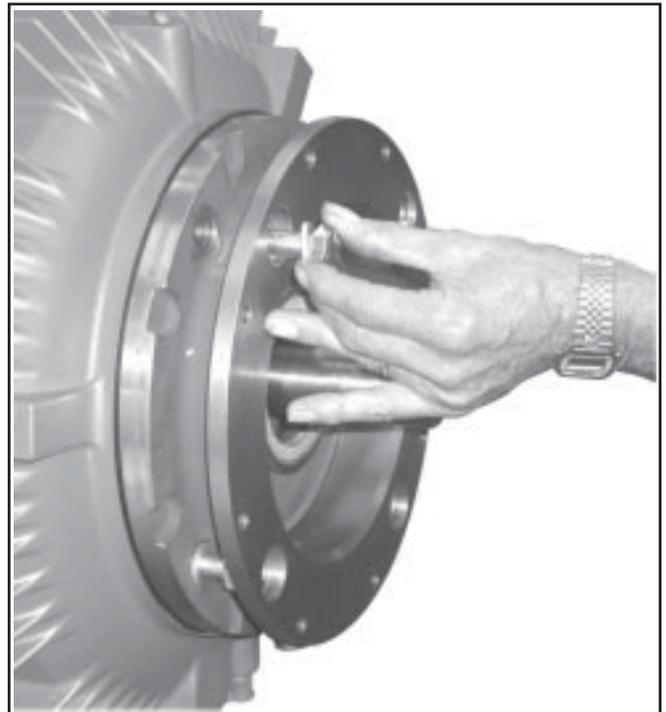

Figure 3.1
3. Assemble the (4) Hex Hd. Cap Screws (#150) and Lockwashers (#128) into tapped holes on the motor flange face (See *Figure 3.1*). Torque 1/2"-13 hex hd. cap screws to 60 lb. ft. or 5/8"-11 hex hd. cap screws to 120 lb. ft.